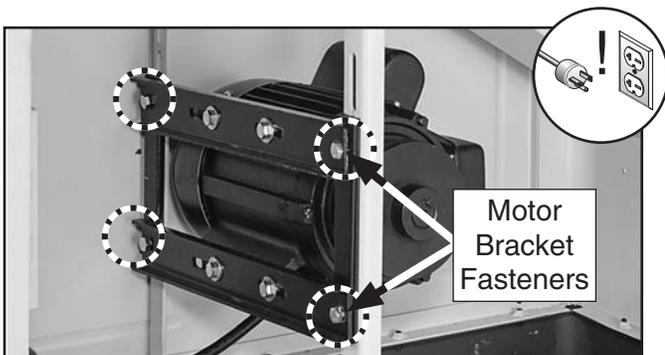

Figure 87. Motor mounting fasteners location.
3. Loosen motor bracket fasteners shown in **Figure 87**.
6. Tighten motor bracket fasteners (see **Figure 87**) and replace cabinet rear access panel.